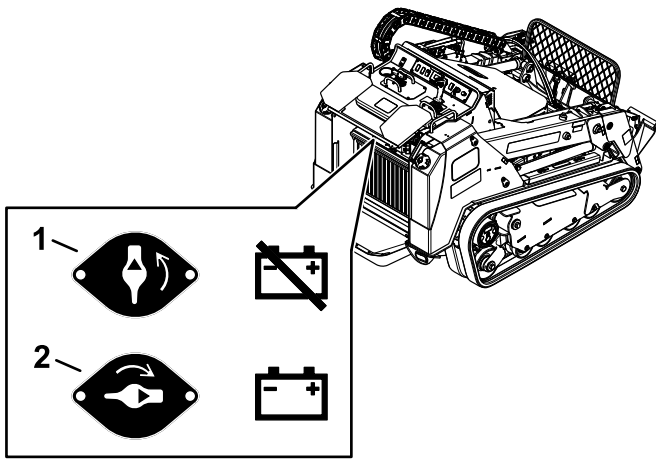

Figure 55
- To energize the machine electrically, rotate the battery-disconnect switch clockwise to the ON position (Figure 55).
- To de-energize the machine electrically, rotate the battery-disconnect switch counterclockwise to the OFF position (Figure 55).